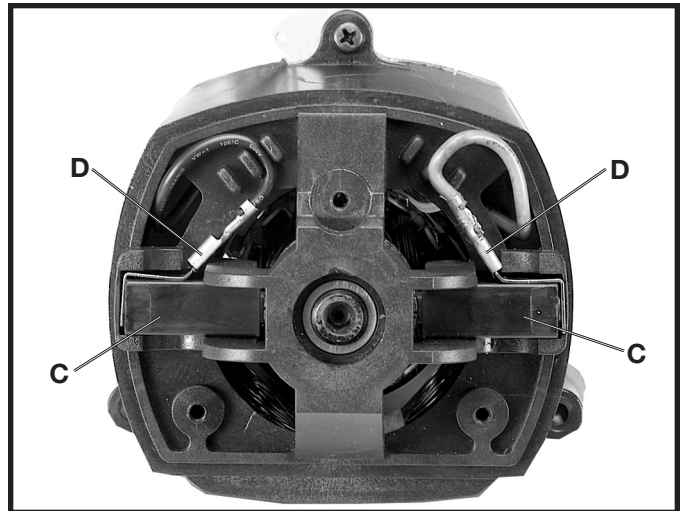

Fig. 47
2. The brushes are located in the two holders (C) Fig. 47. Remove spade type terminal connector (D) and pull out brush holders (C).